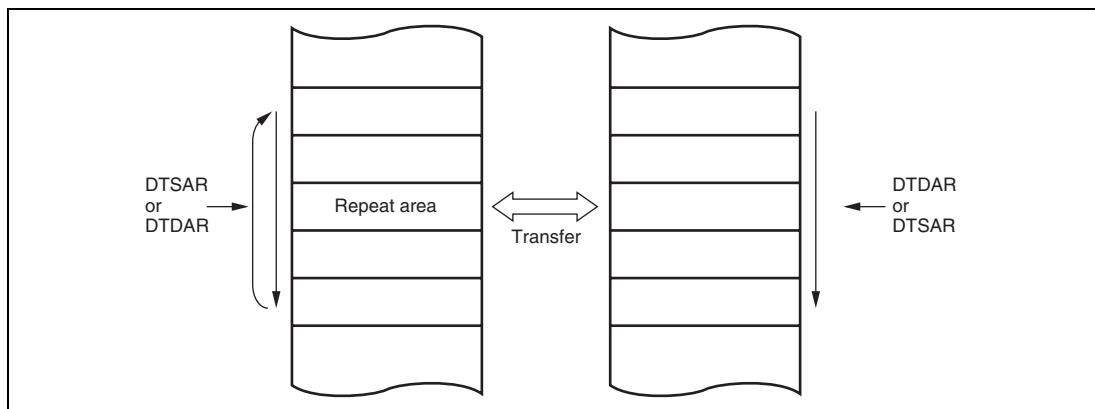

**Figure 8.7 Memory Mapping in Repeat Mode**
**Repeat Mode:** Performs the transfer of one byte, one word, or one longword for each activation. Either the transfer source or transfer destination is designated as the repeat area. Table 8.3 lists the register functions in repeat mode. From 1 to 256 transfers can be specified. Once the specified number of transfers have ended, the initial state of the transfer counter and the address register specified as the repeat area is restored, and transfer is repeated. In repeat mode the transfer counter value does not reach H'00, and therefore CPU interrupts cannot be requested when DISEL = 0. Figure 8.7 shows a memory map in repeat mode.